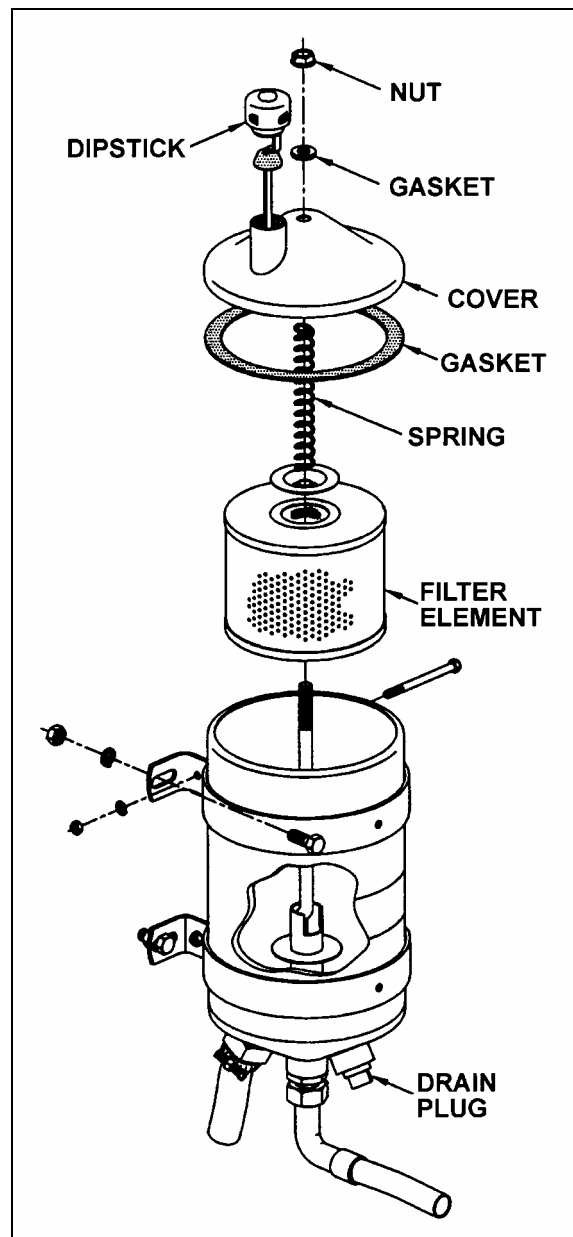

FIGURE 7: POWER STEERING FLUID RESERVOIR 14018A
1. Stop engine. Open engine compartment R.H. side door (Fig. 7).